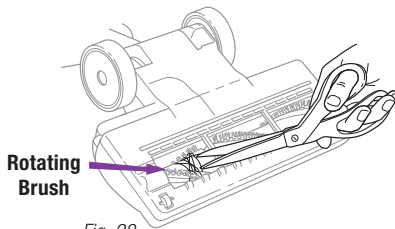

Fig. 28
- 2 Inspect the opening underneath and the rotating brush. If a build-up of debris is present, remove it. Carefully cut anything wound around the rotating brush with scissors. Avoid damaging or cutting the bristles. (Fig. 28)